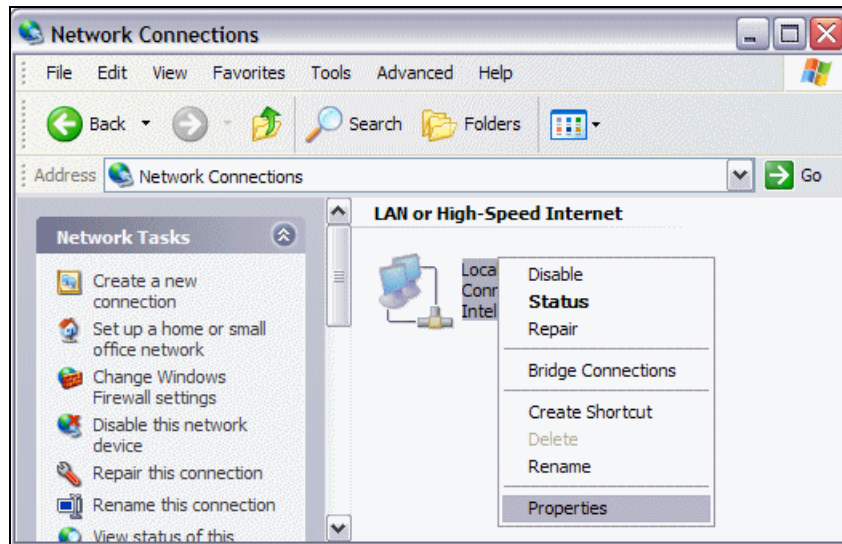

Figure 8-18 Select network interface
3. Right-click the Network Adapter, and click **Properties**, as shown in Figure 8-18 on page 263.